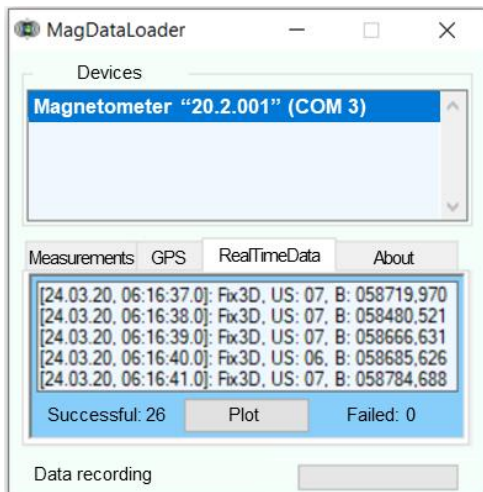

Figure 53 – Real-time data acquisition with normal reception conditions via GNSS coordinates
3. Switching to the RealTimeData tab allows you to display real-time data received from the magnetometer (Figure 53). To do this, after opening the program, it is necessary to start measurements on the CU in manual or automatic mode. It should be noted that if you first start measurements on the CU and then run the program on the PC, the date will be displayed incorrectly (zero).